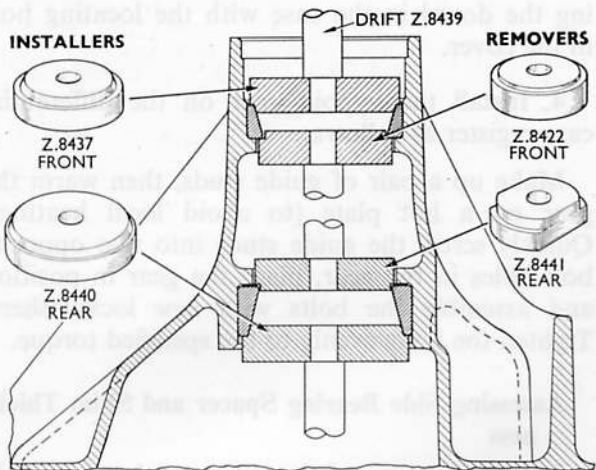

Fig. J.15. Application of service tools for removal and installation of pinion bearing outer races
13. Press the pinion rear and front bearing outer races out of the axle housing (Fig. J.15).
2. Place the pinion shim or shims previously selected on the rear bearing abutment face in the axle housing, and press in the rear bearing outer race (see Fig. J.15 for plug and drift details).